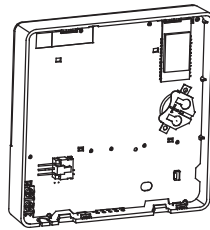

Fig 3-5
- Put the battery into the installationsite and make sure the positive side of the battery is in accordance with the positive side of installationsite. (See Fig.3-5)